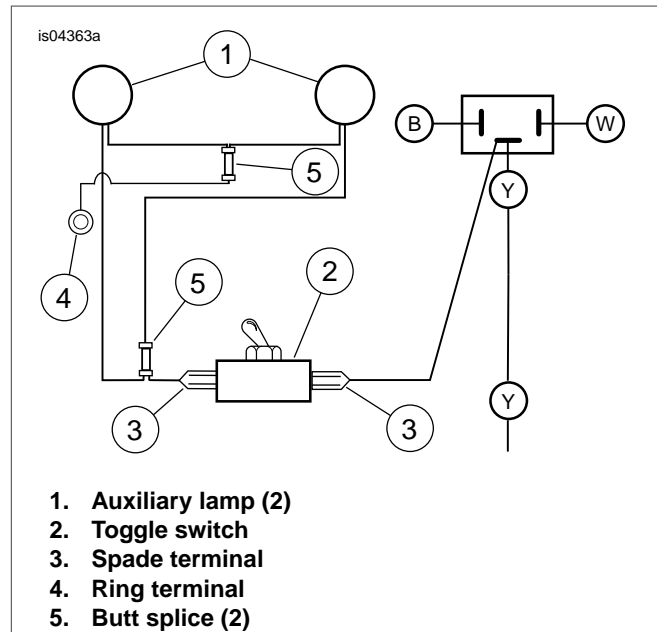

Figure 3. Wiring Diagram
3. See Figure 3. Route gray/black (power) wires and black (ground) wires from auxiliary lamps (1) into bottom of front fork panel to a location near switch. Cover wires to each lamp with vinyl conduit (24). Crimp both gray/black wires into one end of a butt splice. Use a small section of wire cable (23) and crimp into opposite end of butt splice. Crimp final end into spade terminal (22).
4. Attach connector (3) to the nearest terminal on the toggle switch (2).
2. See Figure 3. Insert two stripped ground wires to butt splice connector (5).
3. Insert the end of the ground wire with ring (4) to the opposite end of butt splice (5).